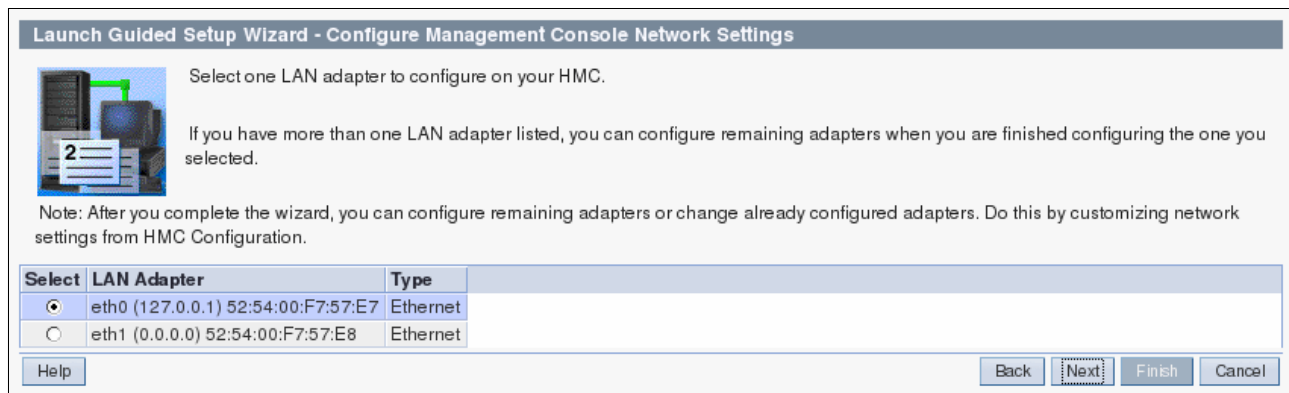

Figure 3-87 Setup Wizard Network settings
16. You are now ready to configure the network (Figure 3-87). Click **Next** to configure eth0.